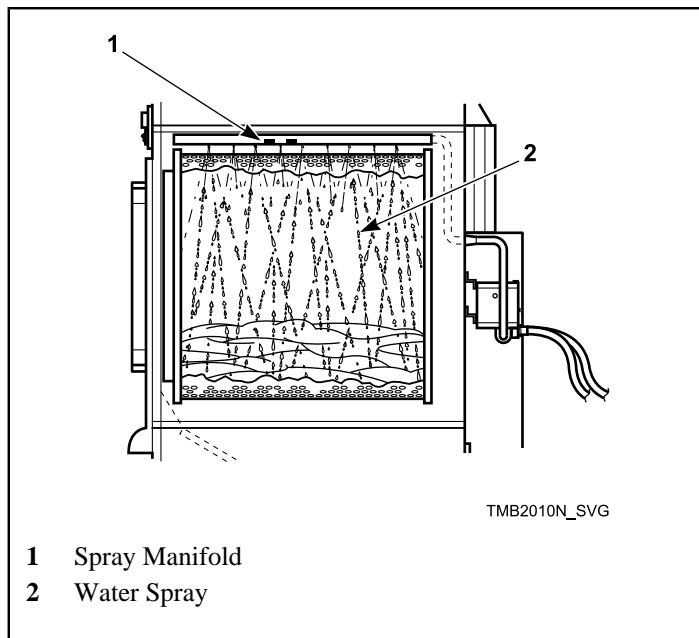

Figure 64
7. After 15 seconds of water spray, press and hold the reset button until water spray is off and light is off. This should take approximately one second. Refer to *Figure 63* and *Figure 64* .